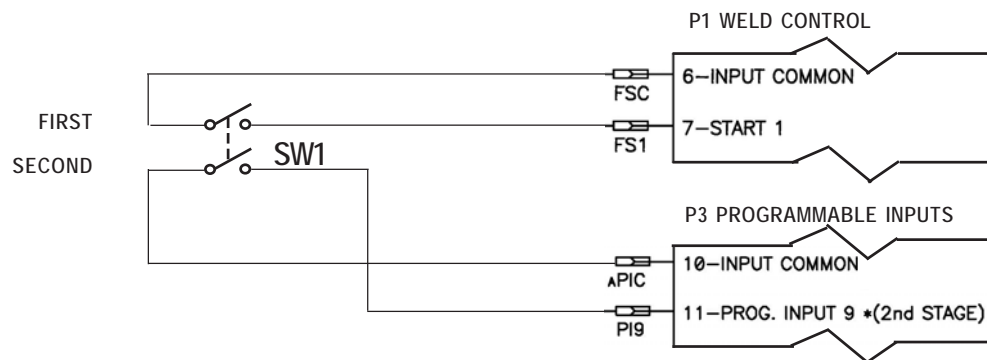

Figure 4-10. Single two-stage foot switches connection diagram
1. Connect as shown in Figure 4-10. Activating foot switch SW1 will initiate welding sequence in SCHEDULE 0.